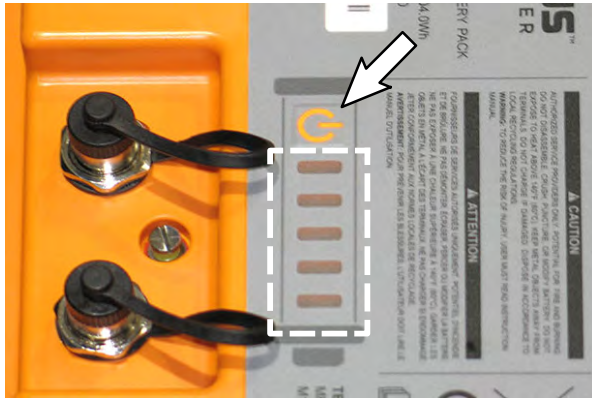

FIG. 12
1. Turn off the lithium battery pack. Press and hold the power button on one of the lithium batteries for 20 seconds to turn the entire battery pack off. (Fig. 12)